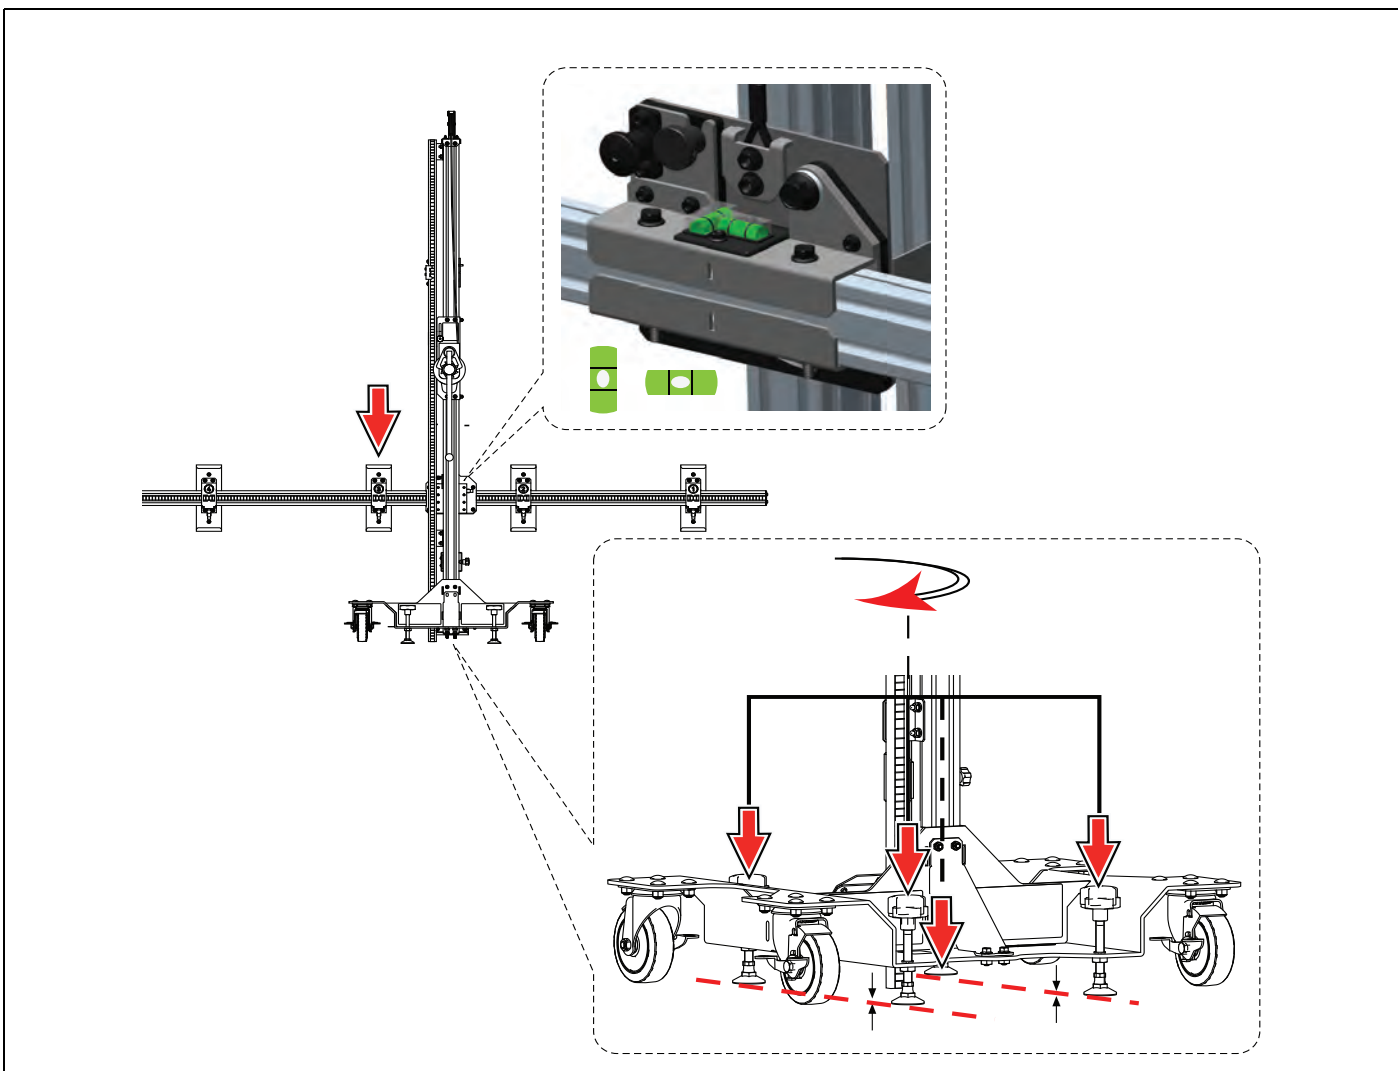

Figure 4-26
8. Without moving the TS100 target stand, lower the target cross beam (using the clutch brake height adjuster) to the lowest position possible, without allowing the targets or the arm to touch the vehicle (Figure 4-26). Figure 4-26 is shown without targets installed for clarity and for reference purposes only.
9. Lower the leveling feet to raise the fixture off the casters, then adjust the leveling feet to level the cross beam (Figure 4-26). A spirit level is located on top of the cross beam.
- Without moving the TS100 target stand, lower the target cross beam (using the clutch brake height adjuster) to the lowest position possible, without allowing the targets or the arm to touch the vehicle (Figure 4-26). Figure 4-26 is shown without targets installed for clarity and for reference purposes only.
- Lower the leveling feet to raise the fixture off the casters, then adjust the leveling feet to level the cross beam (Figure 4-26). A spirit level is located on top of the cross beam.